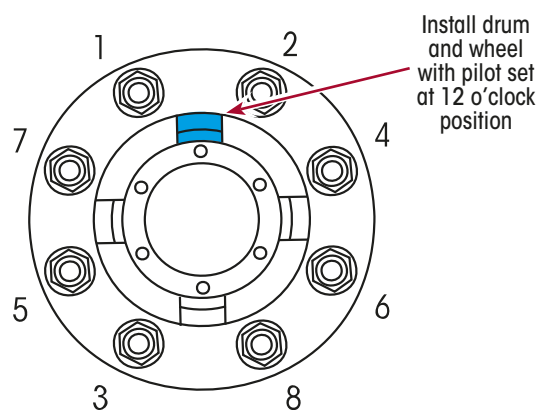
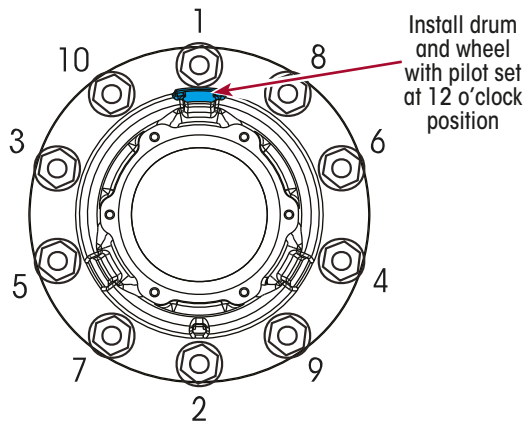

Figure 120: 8 Stud Tightening Sequence
Figure 121: 10 Stud Tightening Sequence
2. Rotate hub until a pilot boss is at the top (12 o'clock) position. This will help hold the drum up in position when being fitted and reduce likelihood of drum catching on pilot. Refer Figure 120 or Figure 121.
8. Using the applicable sequence shown in Figure 120 or Figure 121, tighten all wheel nuts to initial torque of **70 Nm**.